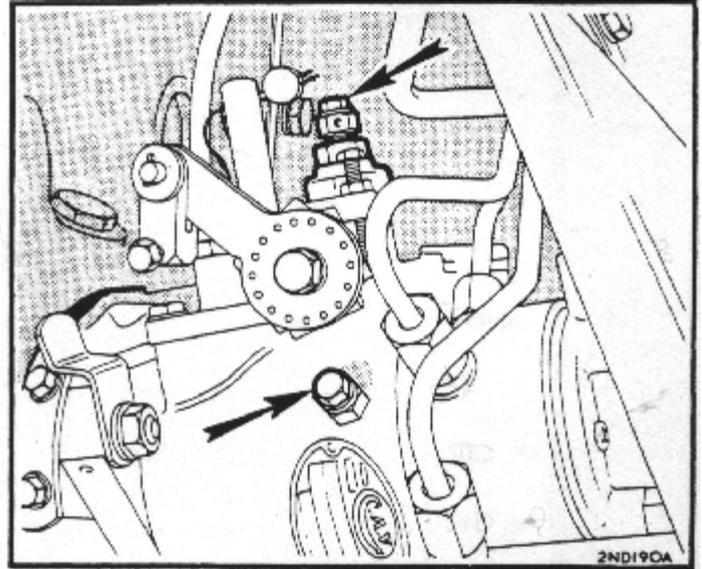

Fig. 1
4. Slacken the two bleed valves on the injection pump illustrated in Fig. 1. Operate the lift pump, and when fuel coming from both valves is free of air bubbles, tighten the valves.